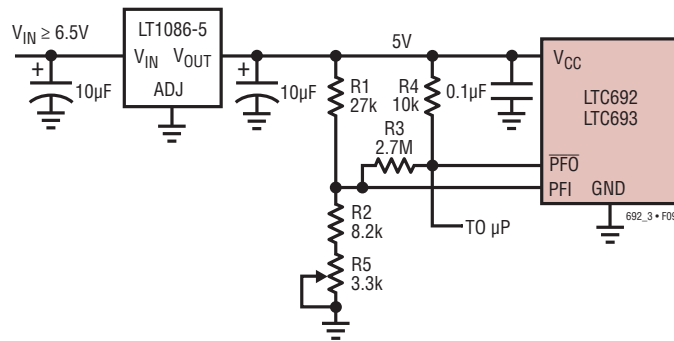

Figure 9. Monitoring *Regulated* DC Supply with the LTC692/LTC693 Power-Fail Comparator
**Example 2:** The circuit in Figure 9 can be used to measure the regulated 5V supply to provide early warning of power failure. Because of variations in the PFI threshold, this circuit requires adjustment to ensure the PFI comparator trips before the reset threshold is reached. Adjust R5 such that the  $\overline{\text{PFO}}$  output goes low when the  $V_{\text{CC}}$  supply reaches the desired level (e.g., 4.6V).